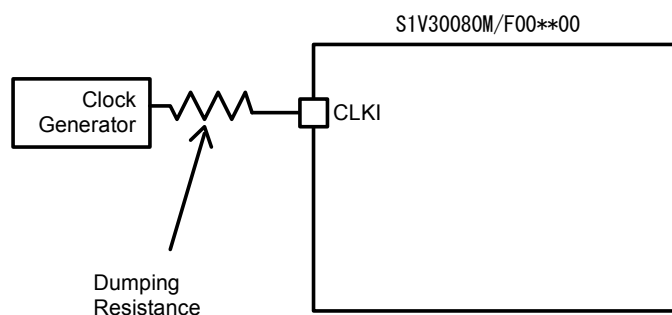

Figure 10.5 Typical clock input overshoot/undershoot prevention measures
- The OSCI and OSCO pins and related wiring should be shielded using VSS, including for adjacent circuit board layers. The wiring layer should be broadly shielded, as shown in Figure 10.5. Adjacent layers should be fully grounded where possible; as a minimum, shield adjacent layers to cover the area of at least 5 mm around the above pins and wiring. Note that digital signal lines cannot be configured in parallel as mentioned above, even if these precautions are implemented. Crossing should be avoided even in separate layers except for signals with low switching frequencies.